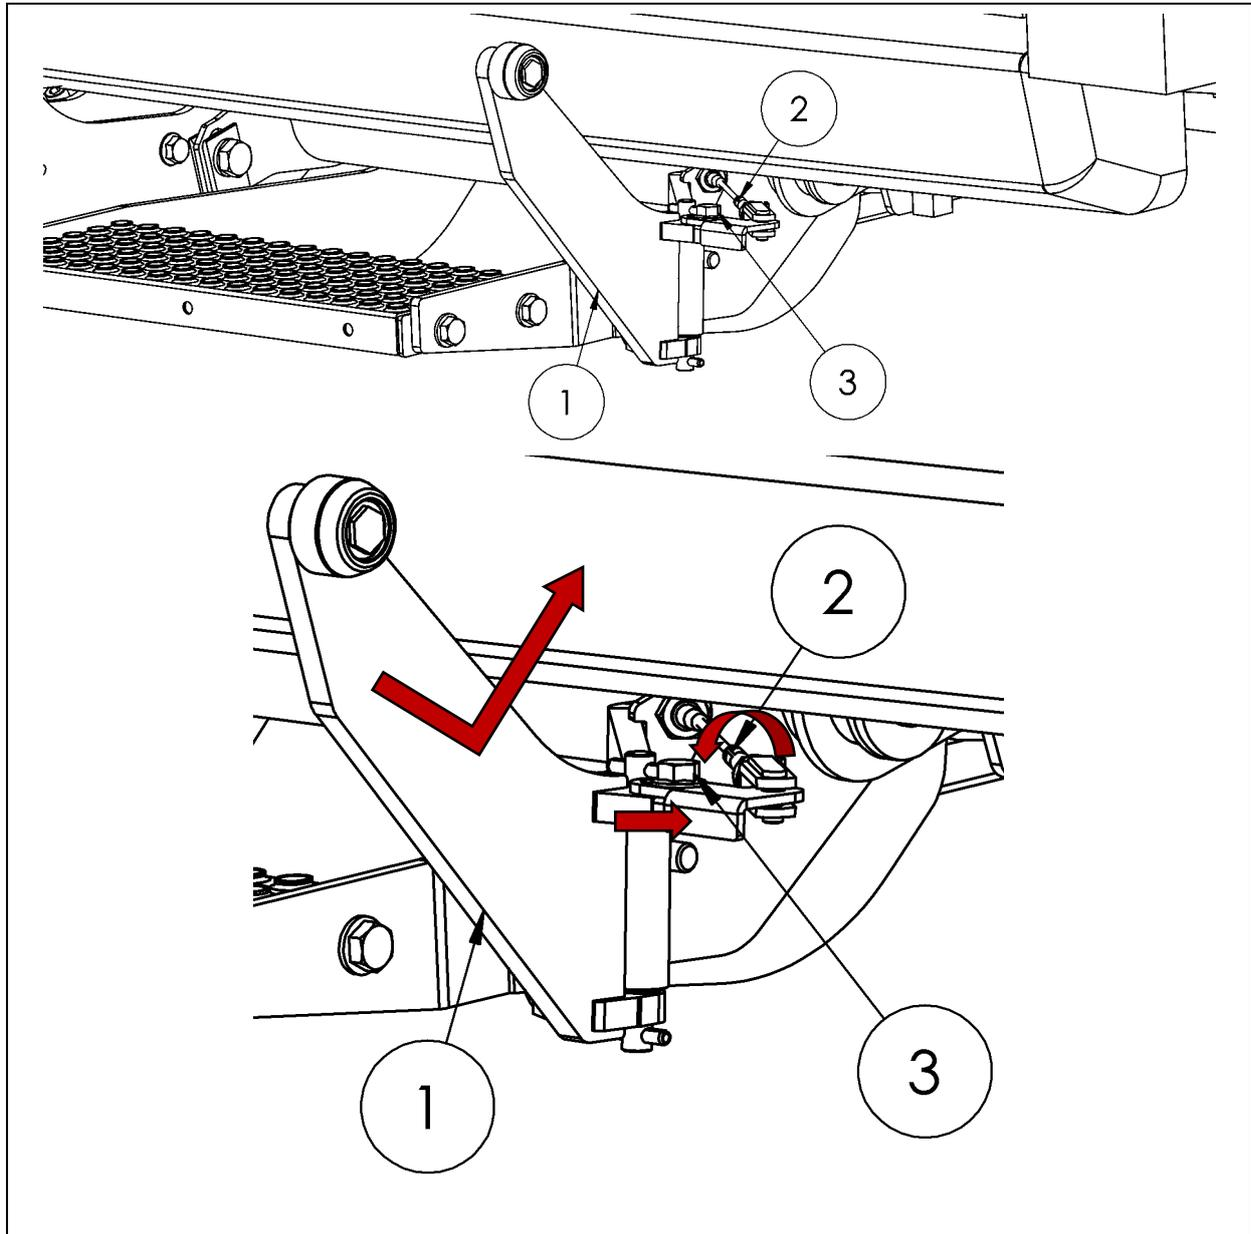

Figure 84
Adjust the support arm (1) so that it can be pulled as close to the vehicle as desired when the platform is closed. The adjustment is made outside at the Bowden cable (2) and, if applicable, also at the screw on the lever (3). While making the adjustment, release the Bowden cable (2) and open the platform (see Fig. 84).